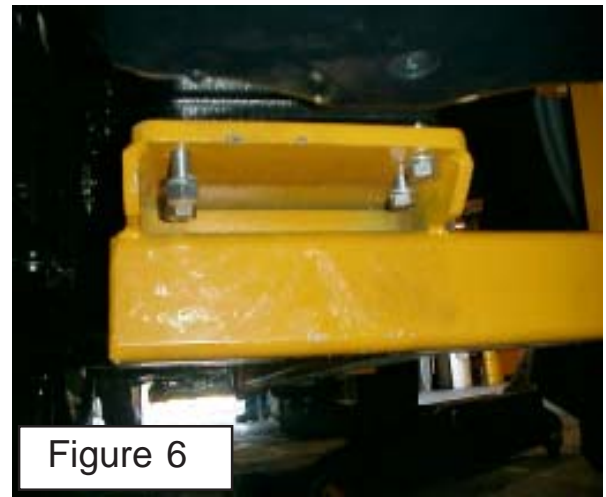

Figure 6
8. Tighten Rear Frame Rail Mounting Bolts to Center Rear Axle. Tighten the rear frame rail mounting bolts (See Figure 6). These bolts will be inserted into the center of the rear axle housing. On some models the drawbar may have to be removed in order to install the frame. Leave the floorjack and/or jack stands under frame rail until completely mounted and bolted down completely.